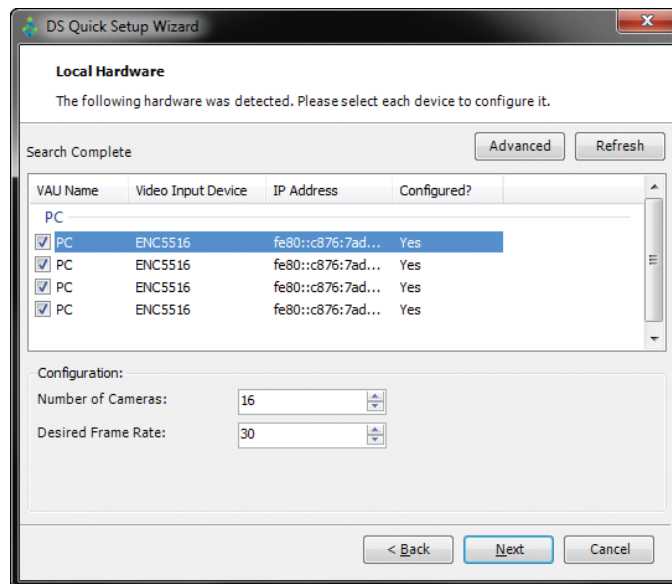

Figure 14. Local Hardware Dialog Box
6. The Local Hardware dialog box appears (refer to Figure 14 on page 15) showing the detected hardware (encoders), the number of cameras connected to each encoder, and the frame rate The encoder will be identified as an ENC5516 or HP3000 (ENC5416) driver.